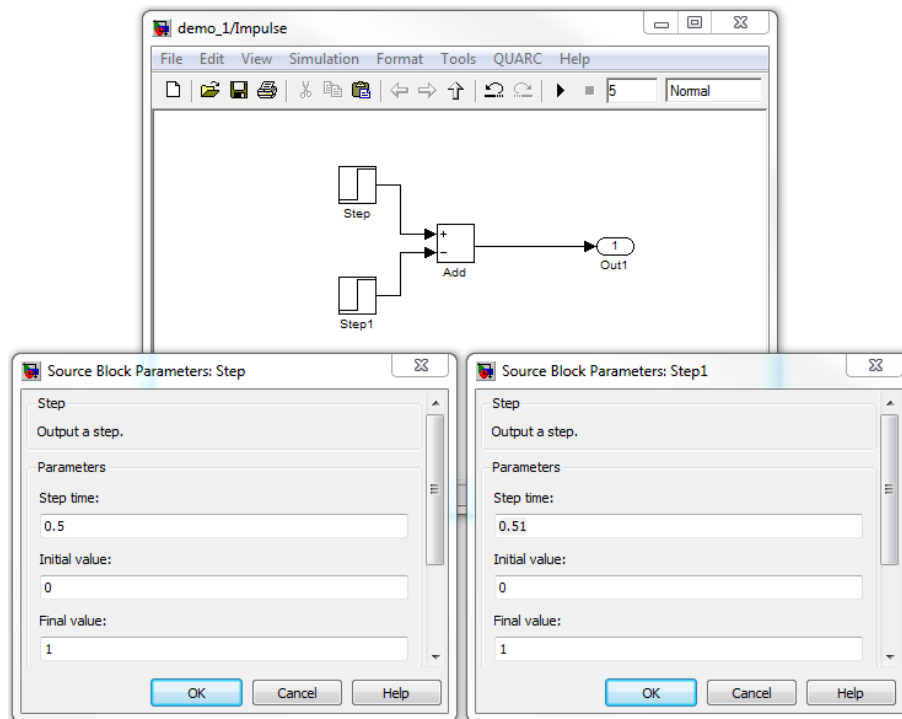

Figure 2.9: Impulse Signal
- **Unit Impulse:** There is no built-in block for creating a unit impulse, but it can easily be created by combining two *Step* blocks using a *Sum* block. If the two step signals are offset by the desired impulse width, and one subtracted from the other, the resultant output will create an impulse of the desired magnitude. For example, the blocks shown in Figure 2.9 both have a magnitude of 1, but a difference in their *Start time* of 0.01s. The output will therefore be a impulse of 1 for 0.01s.